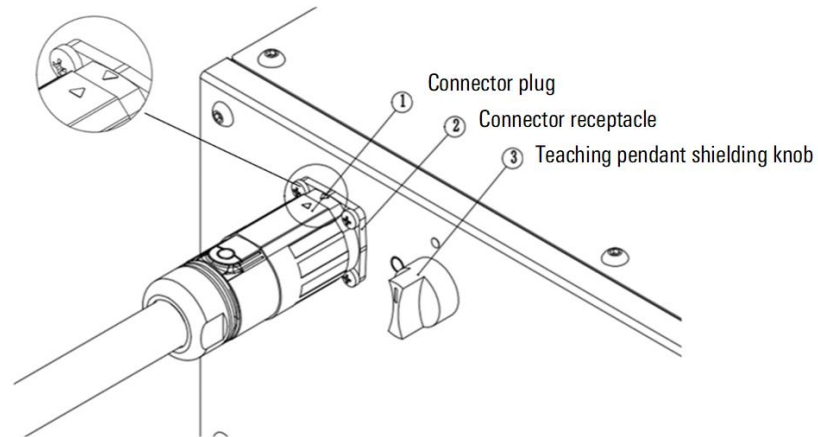

Figure 3-6 Wiring diagram of teach pendant
The upper left corner of the front panel of the inCube22 control cabinet is the teach pendant connection interface, which is connected by a quick-plug connector (see Figure 3-6).
Step1. Turn the teach pendant shield knob ③ to the solid point position to enable the teach pendant function.
Step2. Align the triangle symbol of the connector plug ① with the triangle symbol of the connector socket ② (as shown in the partial enlarged view of Figure 3-6), push the connector plug ①, and rotate it 45° clockwise to make it align with the connector socket ② tight.